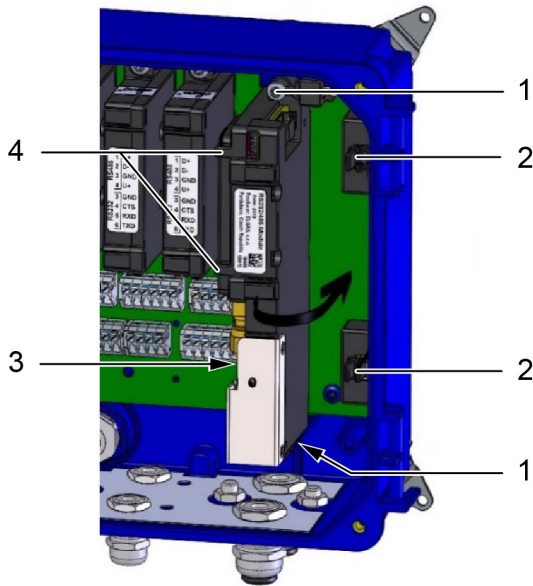
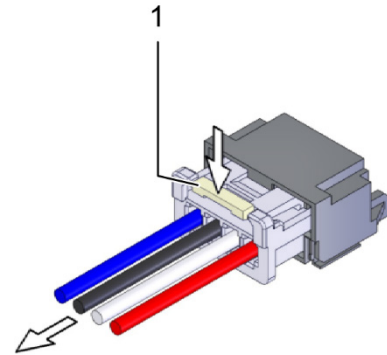
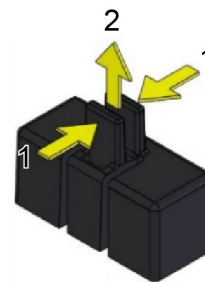

Fig. 53: Install external power supply
Fig. 52: Release the safety lock
Fig. 54: Removing the end caps
- Press the lock (fig. 52, item 1) and gently pull the cables to disconnect the connector of the modem battery (fig. 53, item 3).
- Remove the caps of the connector (fig. 53, item 2) in SLOT 5. Using pliers, press gently the levers (fig. 54, item 1) to loosen the catch and release the cap (fig. 54, item 2).
- Loosen the battery cables from the bracket (fig. 53, item 4)
- Loosen the fixing screws (fig. 53, item 1).
- Place the module on the posts of Slot 5 and press it gently into the connector on the system board. Tighten the screws (fig. 53, item 1).